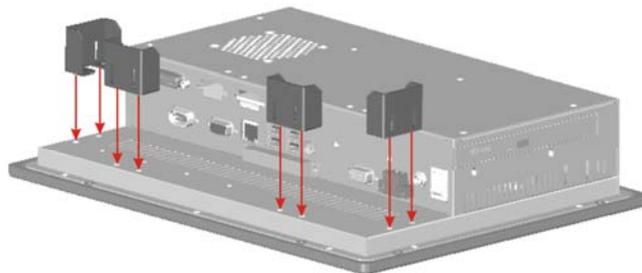

Figure 4-26: PPC-3712 Panel Mounting Kit
Step 1: Install the panel mounting kit onto the real panel (**Figure 4-26**).